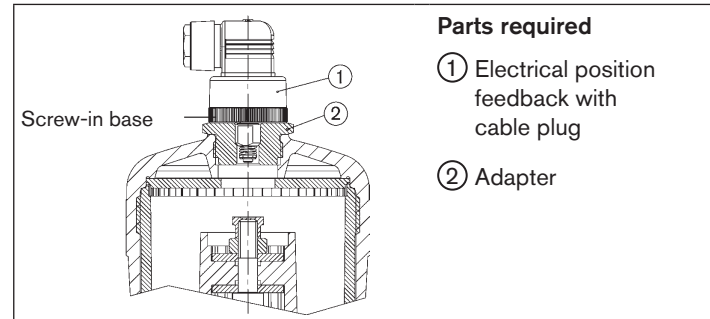

Fig. 10: Actuator size 50, 63, 80 (Ø in mm) with electrical position feedback
- Screw adapter ② (see “Fig. 10”) instead of transparent cap onto actuator
- Screw electrical position feedback ① (see “Fig. 10”) into adapter ②, following the note in Chapter “10”, page 19.